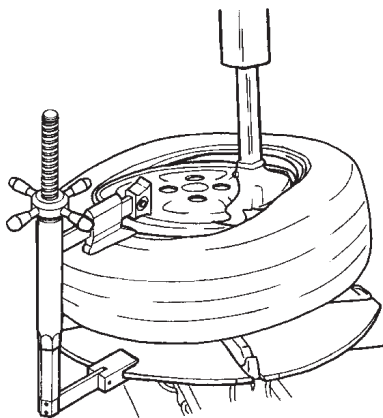

Fig. 4.2-4
**C.** Mount the upper bead following the directions in section B. With low profile tires the bead holding clamp (option EAA0247G11A Fig. 4.2-4) can help to prevent the top bead from prematurely seating during the mounting cycle.